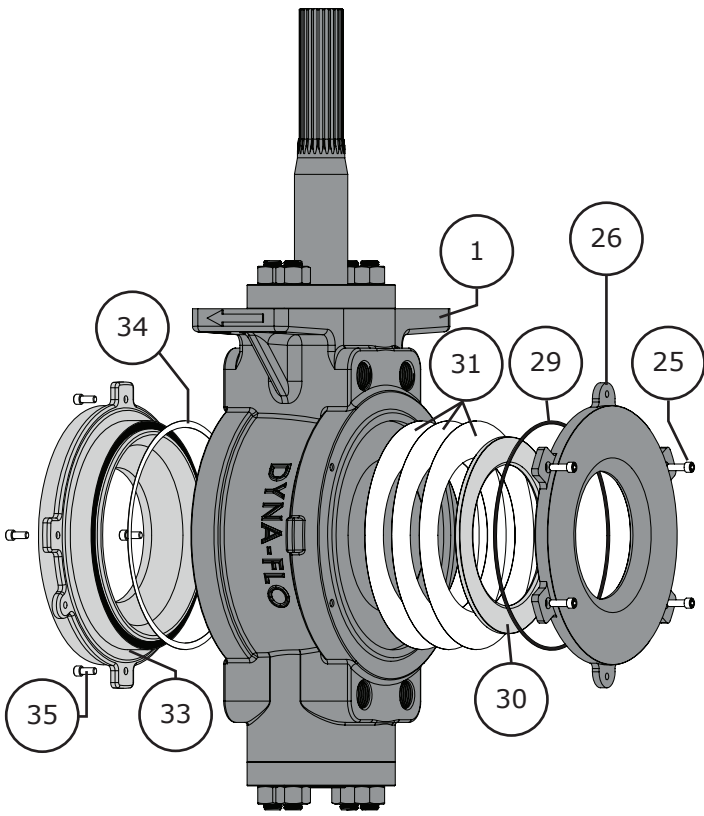

Figure 10 Typical Single Seal Valve Disassembly
(Refer to Figures 10 & 11)
- 6 For Dual Seal Construction:** flip the valve body, repeat Steps 1 to 5 above. (Refer to Figures 10 & 11)
- 7 For Single Seal Construction** (Refer to Figure 10)